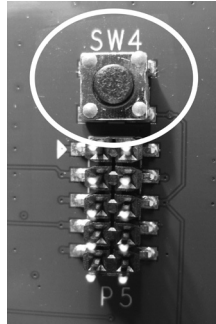

Figure 4 RESET button
- Press and release the RESET button, SW4 (see Figure 4).